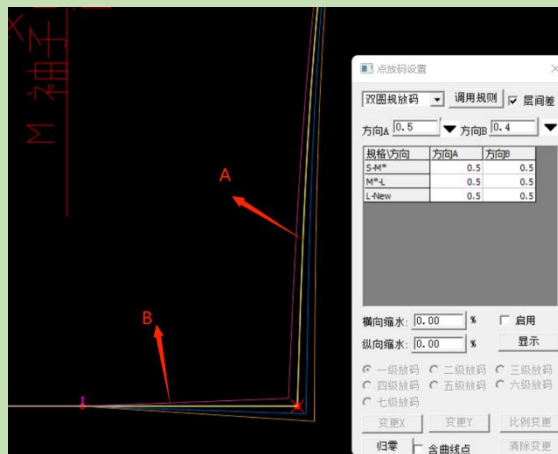

Figure5-50
3. Enter the grading amount as shown in Figure 5-50.